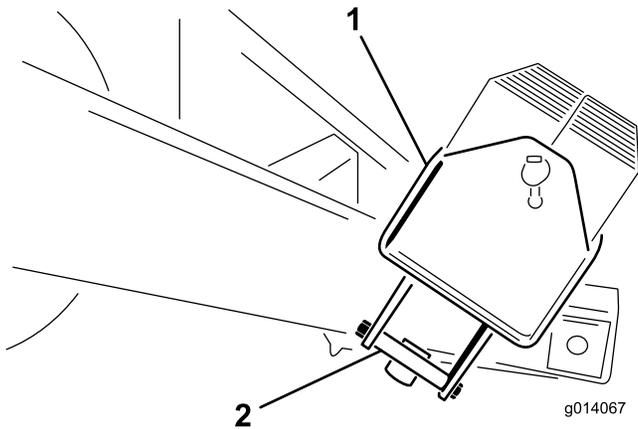

Figure 5
2. Remove the 1/2 x 5-1/2 inch bolts from the mounting bracket holding the weight case. Discard the mounting brackets (Figure 5).